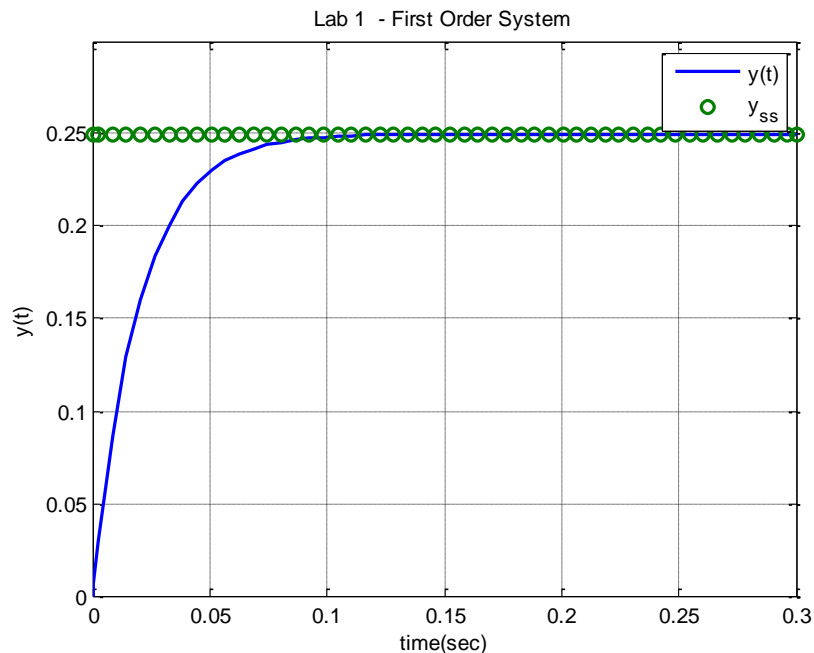

Figure 19: Step Response with input and output
14. MATLAB defaults to finding a convenient set of axes, but sometimes you want to tell MATLAB more specifically the axes you want. If you type **help plot** in the MATLAB command window you can find a number of options for plotting. If you run your code now, you should get Figure 19. Note that you can drag the Legend around and put it where you want.